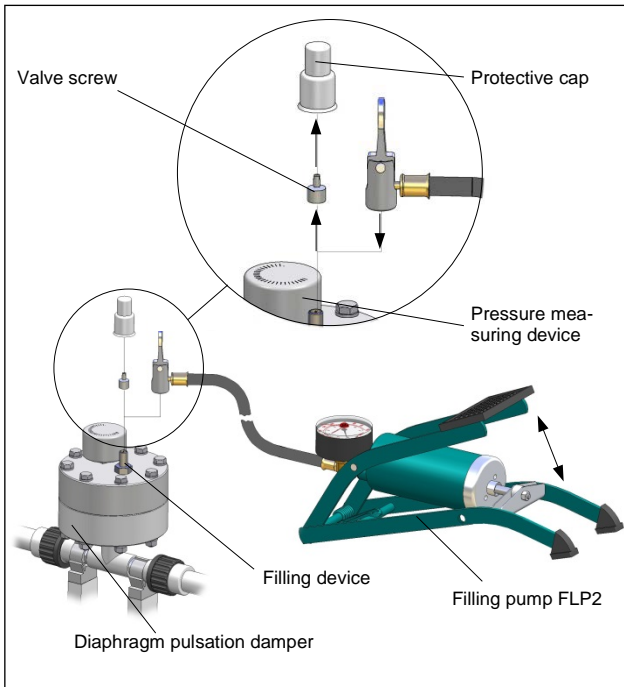

Fig. 12 Connection of the filling pump FLP2
- Build up gas cushion inside the pulsation damper using the filling device described above by pressurizing the pulsation damper with a gas- / air pressure which corresponds to appr. 60% of the operating pressure to be expected (see Fig 12).